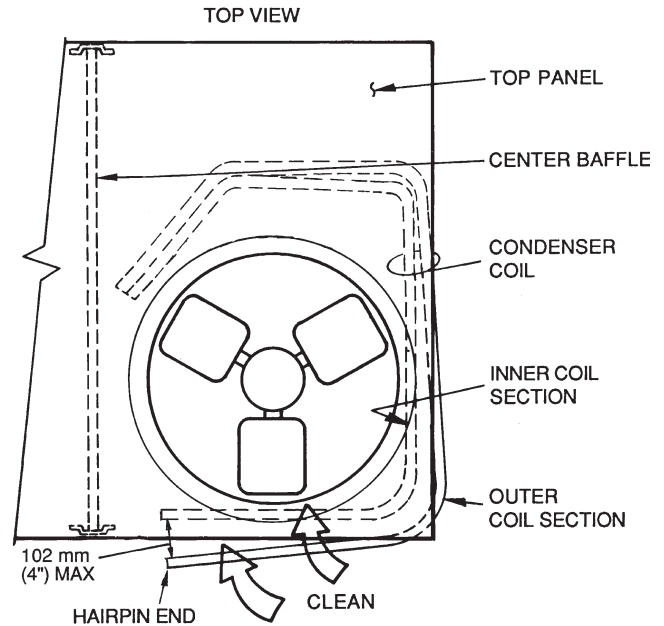

Fig. 10 — Separating Coil Sections
5. Remove fastener holding coil sections together at return end of condenser coil. Carefully separate the outer coil section 3-in. to 4-in. from the inner coil section. See Fig. 10.